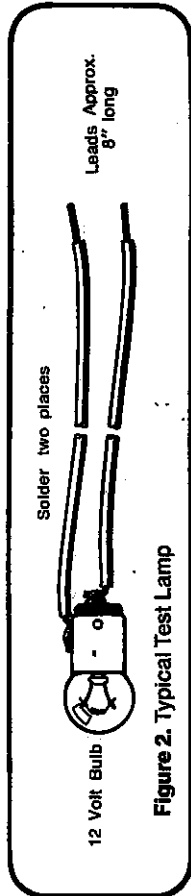

Figure 2. Typical Test Lamp
**Note:** All of these items with exception of the test light are commonly found around most "do-it-yourselfers" homes. If you don't have a test light, we would suggest that you purchase or make one (See Fig. 2). It is relatively inexpensive and is handy when working on any vehicle electrical system.